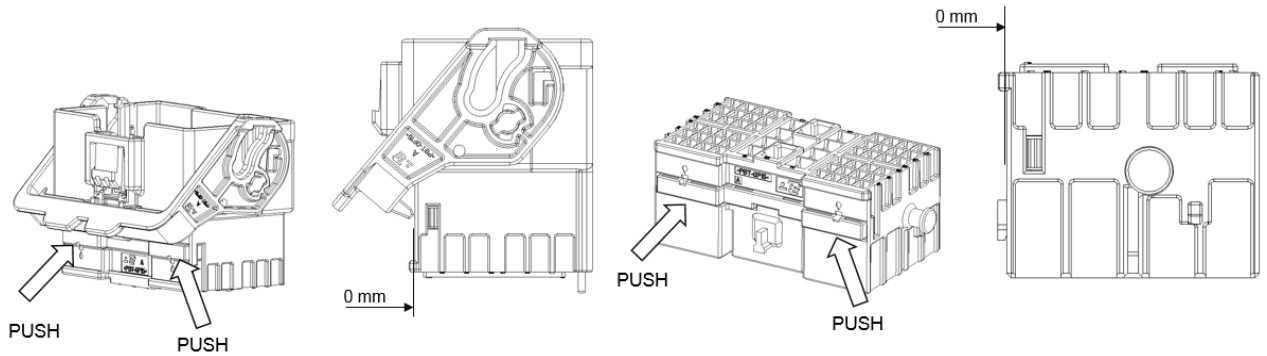

Fig. 12
- (1) After mounting of cavities with contacts the retainers must be pushed complete inwards. (See Fig.12)